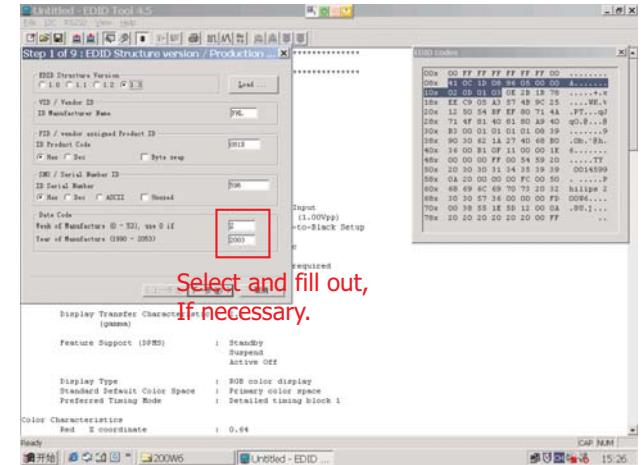

Fig. 21
1. Click (new function) icon from the tool bar, bring up Step 1 of 9 as shown in Fig. 21 .